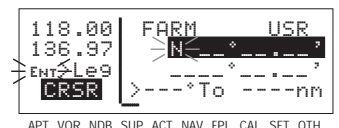

Figure 4-84
6. Use the right inner knob to select N for north or S for south (figure 4-84).